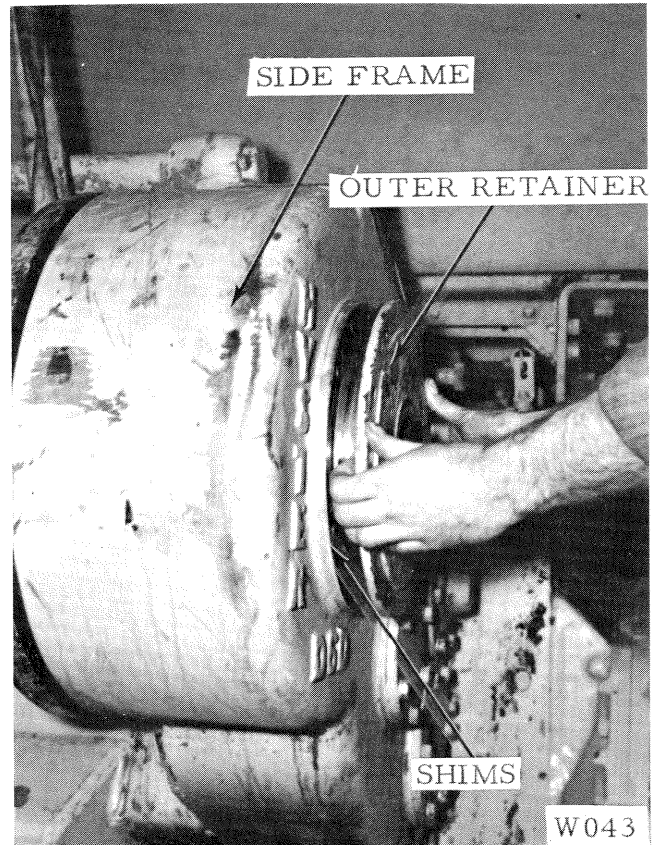

Figure 49
2. Unscrew the drum shaft nuts and the bolts securing the outer retainer to the side frame. With the aid of puller screws, separate the outer retainer from the side frame; then pull the retainer out of the side frame. Fig. 49. Note the shim pack thickness.
9. Slide the outer retainer onto the drum shaft and against the shaft bearing. Fig. 49. Screw the right shaft nut onto the shaft and tighten it securely.